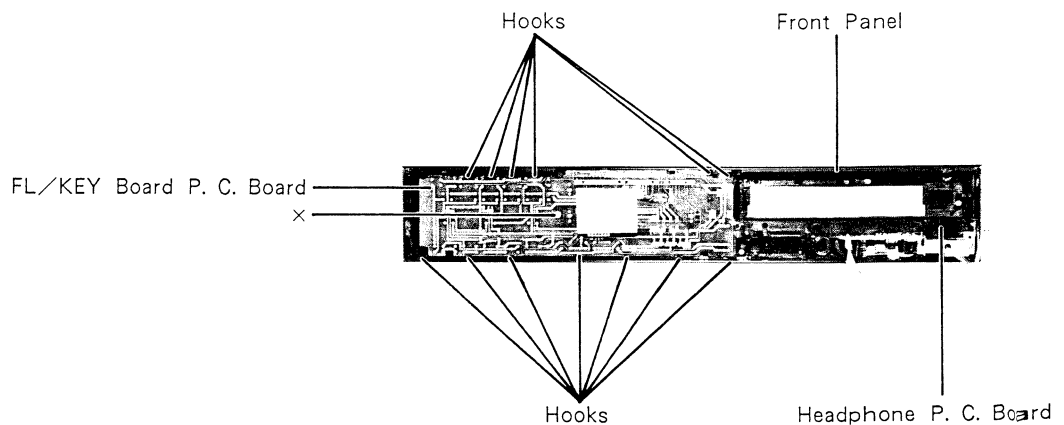

Figure 3
- (1) After removal of front panel, remove one screw marked "x" as shown in Figure 3.
- (2) Remove thirteen hooks as shown in Figure 3.
- (3) Disconnect one connector from the FL/KEY Board P. C. Board.